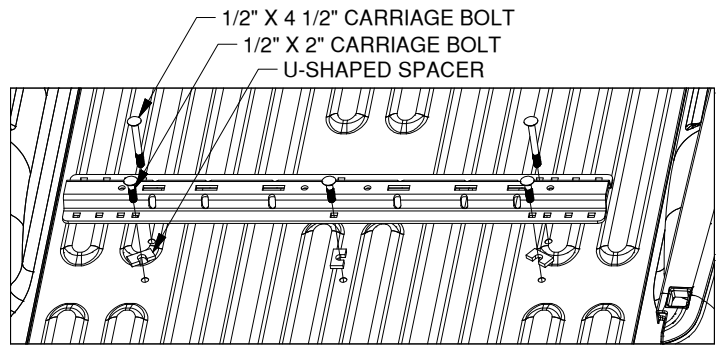

Figure B1: View looking into truck bed from rear of truck.
1. The rear mounting rail. Re-position the rear mounting rail over the drilled 9/16" holes in the bed. Install two 1/2" X 4 1/2" carriage bolts into the two forward drilled positions (holes over the crossmember) and install three 1/2" X 2" Carriage bolts through the three rear drilled positions, as shown in figure B1. Place a U-shaped washer between the bed and the mounting rail at the three rear drilled positions.